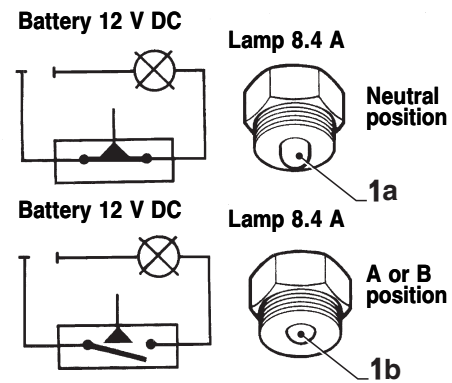

FIG. 5-3
With the pin (item 1a Fig. 5-3) extended you should get a reading, indicating a good switch.
Compressing the pin (item 1b Fig. 5-3) you should have «0» reading,
Connect the neutral safety switch with a light in series to a 12 volt battery. The switch is good when the light goes out when the center pin (item 1b Fig. 5-3) is compressed.